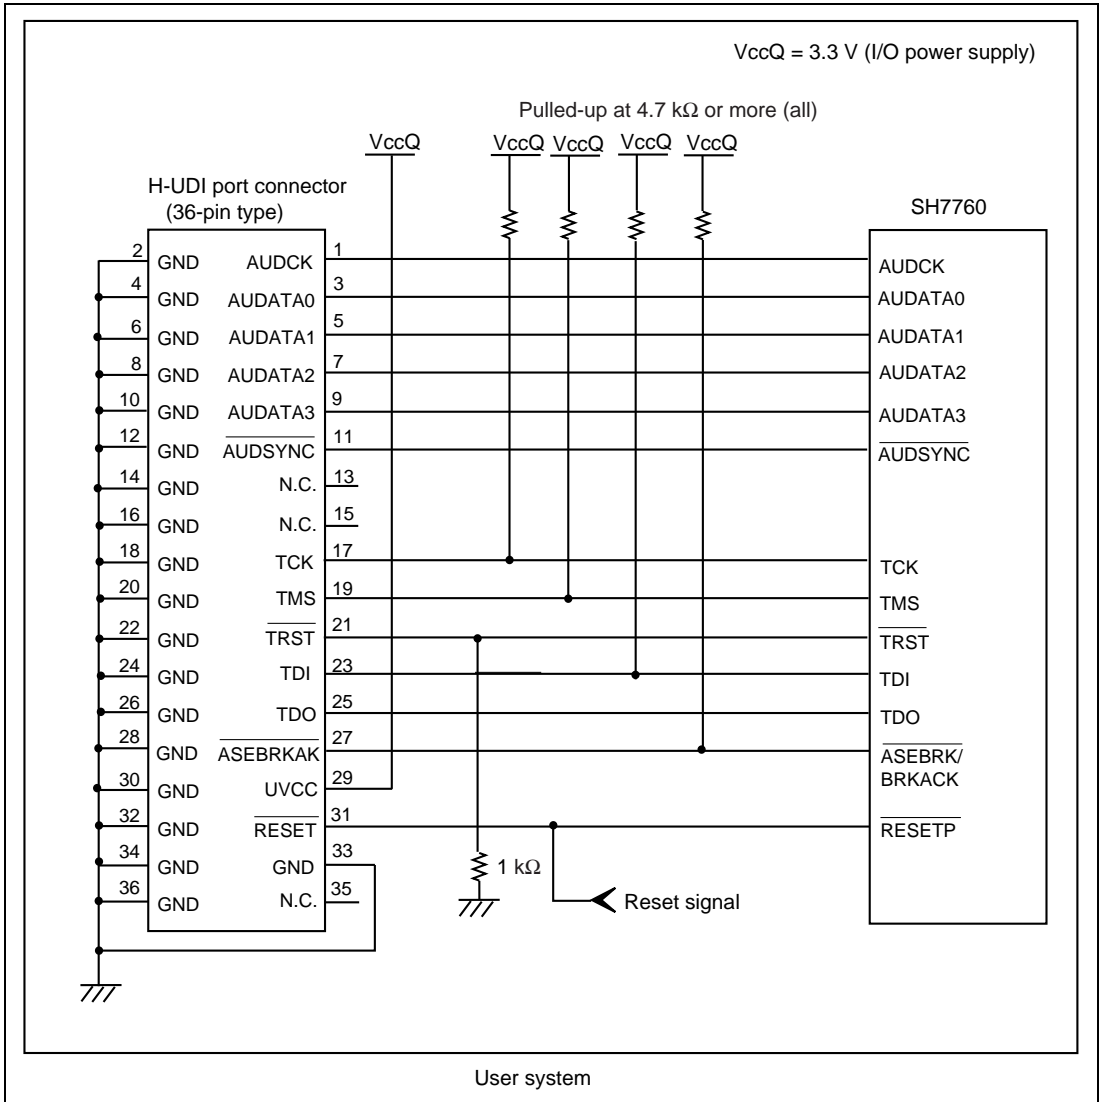
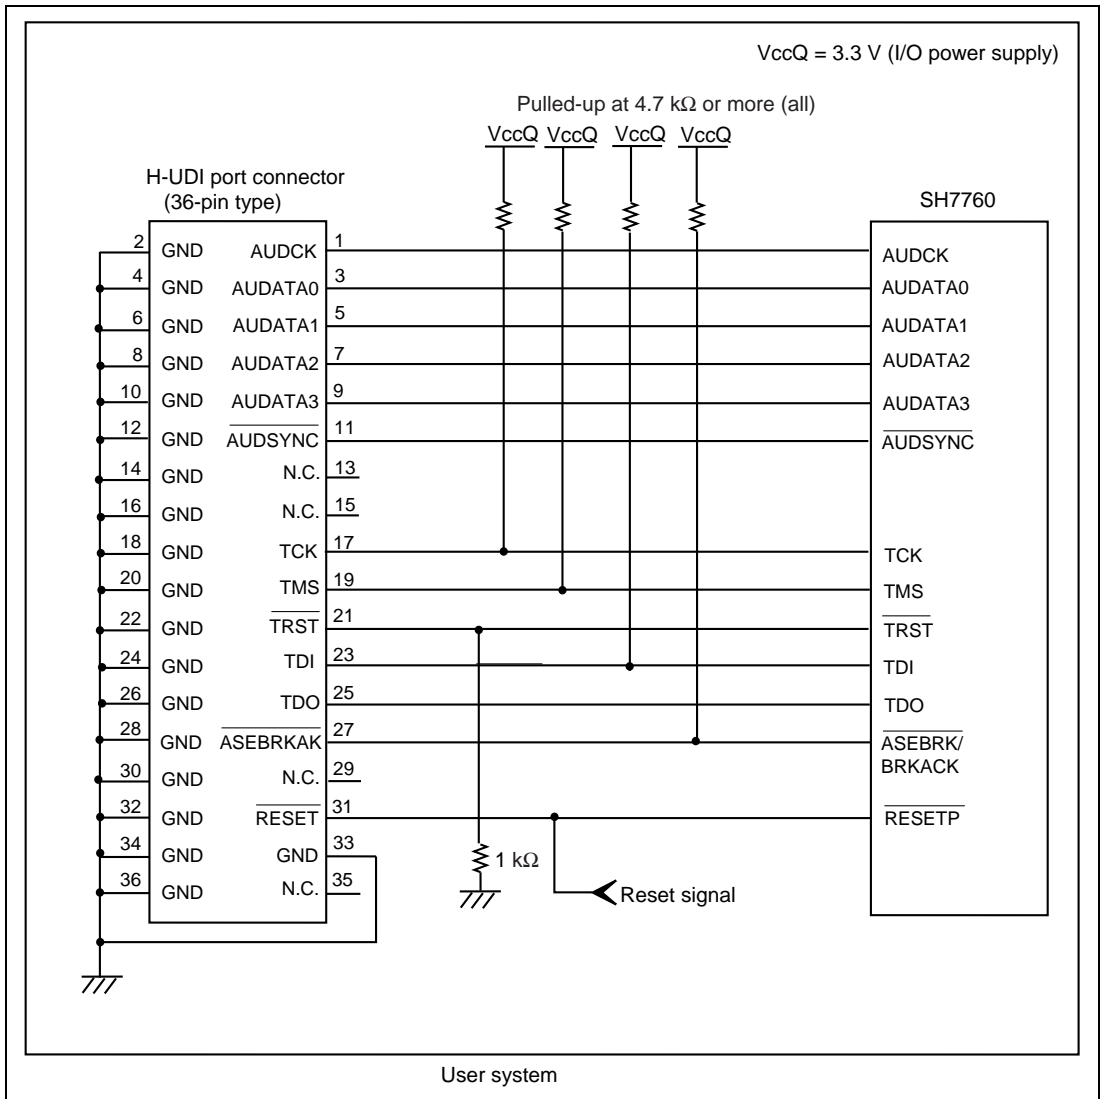

Figure 1.3 Recommended Circuit for Connection between the H-UDI Port Connector and MPU when the Emulator is in Use (36-Pin Type UVCC Connected)
Figure 1.4 Circuit for Connection between the H-UDI Port Connector and MPU when the Emulator is in Use (36-Pin Type UVCC Not Connected*)
Figure 1.3 shows a recommended circuit for connection between the H-UDI and AUD port connectors (36 pins) and the MPU when the emulator is in use. Figure 1.4 shows a circuit for connection when UVCC is not connected.
4. When the power supply of the user system is turned off, supplying VccQ of the user system to the UVCC pin reduces the leakage current from the emulator to the user system. A level shifter that is activated by the internal power supply or user power supply (changed by the switch) is installed in the interface circuit of the emulator. If the user power is supplied to the UVCC pin, the level shifter is not activated as long as no user power is supplied. When the power supply of the user system is turned off, no current flows from the user interface. The I/O voltage level of the user system interface can be the same as that of the VccQ. To operate the emulator with low voltage (lower than 3.3 V), the VccQ must be supplied to the UVCC pin. Make the emulator's switch settings so that the VccQ will be supplied (SW2 = 1 and SW3 = 1) (as shown in figure 1.3).
5. The resistance values shown in figures 1.3 and 1.4 are recommended.
When the circuit is connected as shown in figure 1.3, the switches of the emulator are set as SW2 = 1 and SW3 = 1. For details, refer to section 3.8, Setting the DIP Switches, in the SuperH™ Family E10A-USB Emulator User's Manual.
When the circuit is connected as shown in figure 1.4, the switches of the emulator are set as SW2 = 0 and SW3 = 1. For details, refer to section 3.8, Setting the DIP Switches, in the SuperH™ Family E10A-USB Emulator User's Manual.